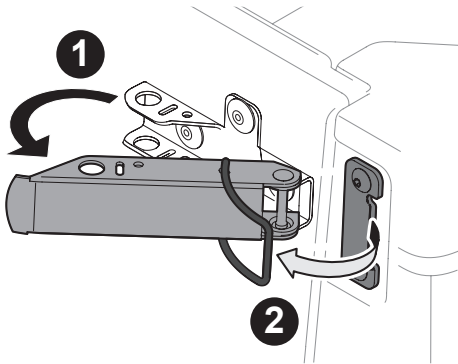
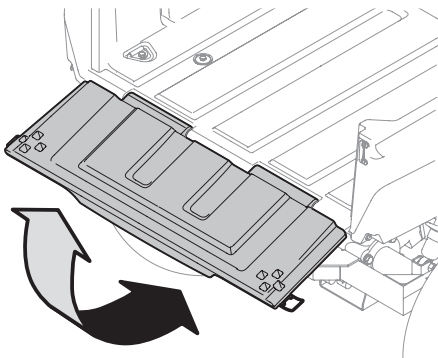
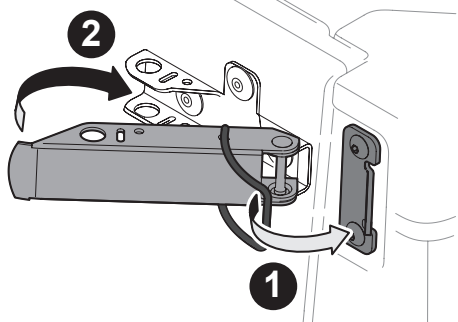

Figure 3-6
Figure 3-7
Figure 3-8
1. Unlatch the tailgate from cargo bed and lower. See Figure 3-6 & Figure 3-7.
2. Raise and re-latch the tailgate to the cargo bed. See Figure 3-7 & Figure 3-8. Do not drive the vehicle with tailgate in the lowered position.